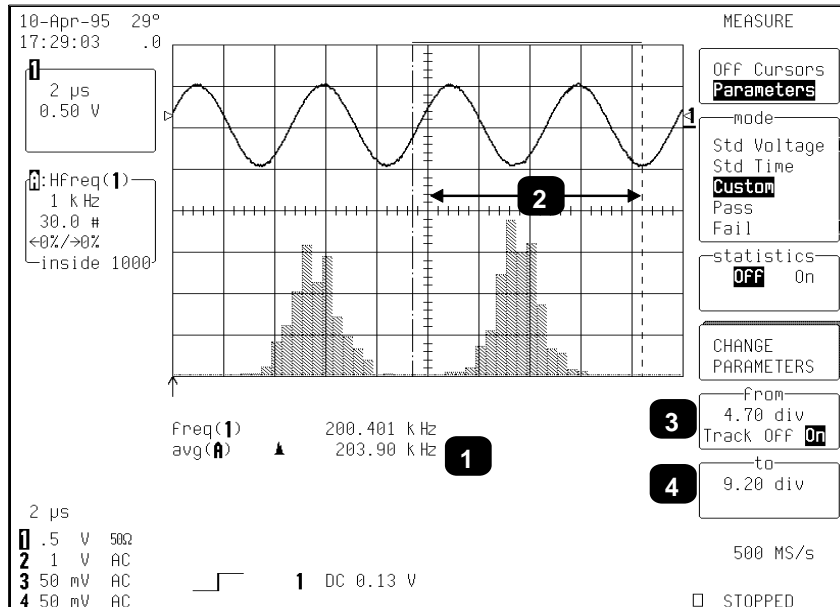

Figure 14-9.
You can use cursors (see Chapter 4) to select a section of a histogram on which a parameter is to be calculated. Figure 14-9 below shows the average, "avg(A)" (Item 1) of the distribution between the parameter cursors for a histogram of the frequency ("freq") parameter of a waveform. The parameter cursors (2) are set "from" 4.70 divisions (3) "to" 9.20 divisions (4) of the display.